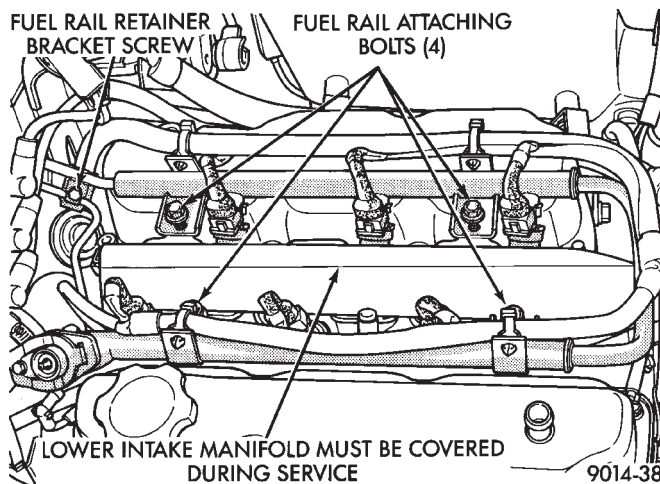

Fig. 10 Fuel Rail Attaching Bolts
(15) Cover intake manifold with suitable cover when servicing (Fig. 10).
(16) Remove vacuum harness connector from Fuel Pressure Regulator.
(17) Remove fuel tube retainer bracket screw and fuel rail attaching bolts (Fig. 10). Spread the retainer bracket to allow fuel tube removal clearance.
(8) Install the (4) fuel rail attaching bolts and tighten to 22 N•m (200 in. lbs.) torque (Fig. 10).
(9) Install fuel tube retaining bracket screw and tighten to 4 N•m (35 in. lbs.) torque (Fig. 10).